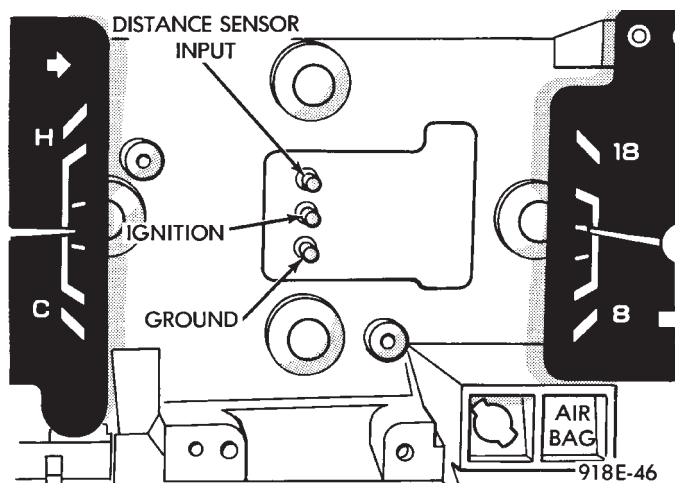

Fig. 24 Speedometer Pins
(1) Using the DRB II, check distance sensor for distance sensor fault code and for proper speed indication. Refer to Powertrain Diagnostics Procedure Manual, Speed Control System Test.
(2) Remove speedometer from cluster.
(3) With ignition on check for battery voltage across ignition and ground pins (Fig. 24).
(4) Check for continuity from distance sensor signal pin to connector at distance sensor.